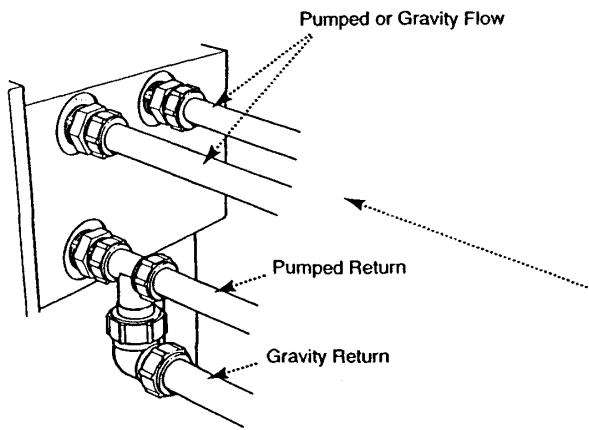

Fig. 18
5.9 Pumped Heating & Gravity Hot Water (Fig. 18)